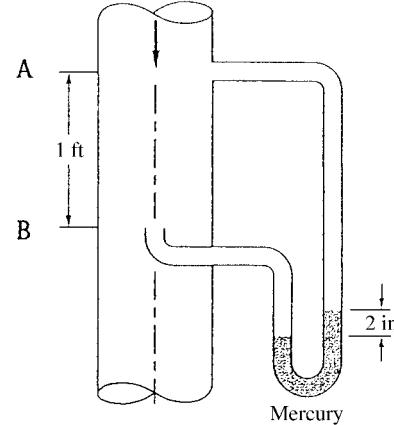

Fig. P6.137
**6.137** For the 20°C water flow of Fig. P6.137, use the pitot-static arrangement to estimate (a) the centerline velocity and (b) the volume flow in the 5-in-diameter smooth pipe. (c) What error in flow rate is caused by neglecting the 1-ft elevation difference?